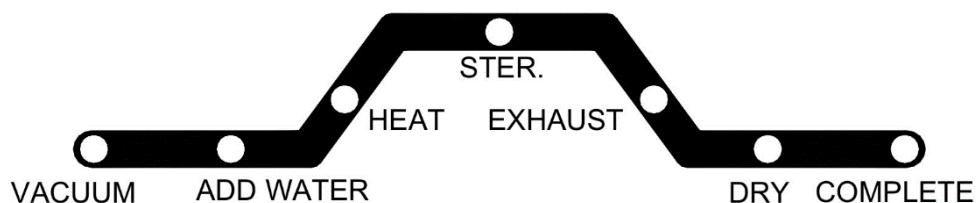

Figure 42
E. Press the START Button  , the setting temperature, duration, and dry time displayed two times on the three-digit display, and then the sterilizer will automatically run through the selected program. The current progress of the sterilization cycle is indicated by the illuminated LED on the Process Status Indicator. (Figure 42).